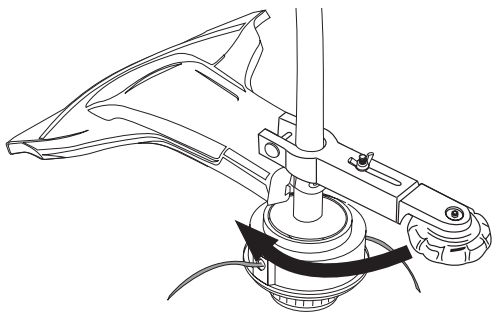

Fig. 13
3. Rotate the edge guide. Accomplish this by loosening its wing nut slightly and turning the guide to the left (when facing the unit away from the engine). Turn the guide about 90° (Fig. 13) or until it resembles the position shown in Figure 14.
8. When you are done using the edger, move it out of the way. Loosen its wing nut and rotate the edger 180° from the position shown in Figure 13. The edger will rest above the cutting attachment guard. Re-tighten the wing nut and operate the trimmer normally.